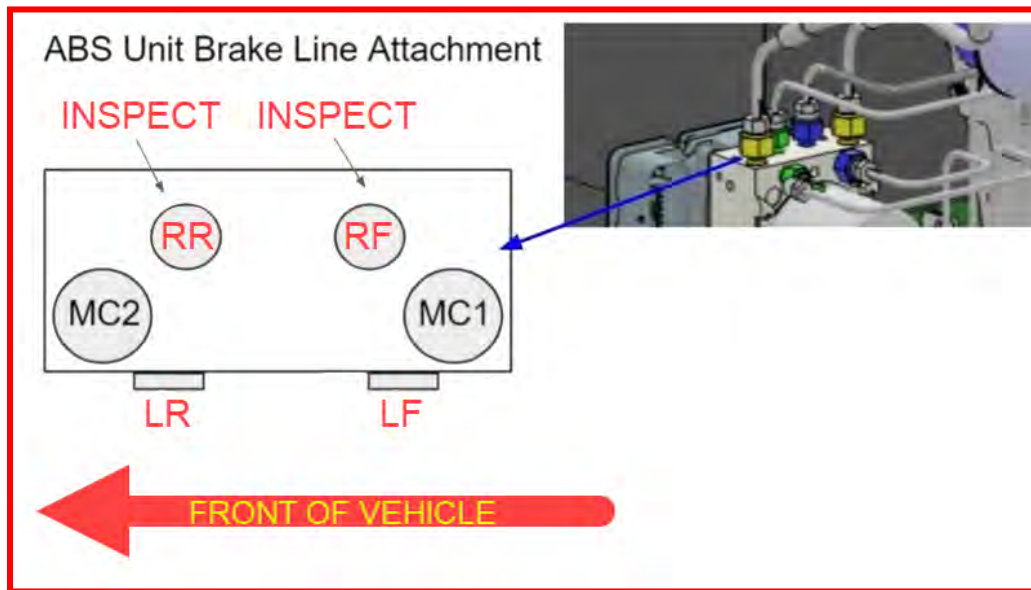

Figure 6 - ABS Assembly & Brake Line Locations
- Remove the right front (RF) brake line fitting from the ABS assembly as shown (Figure 6)